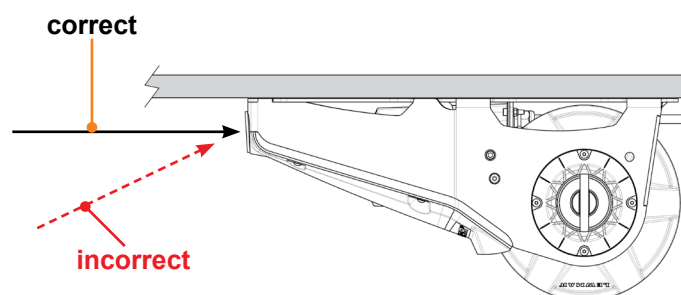

Fig.3
6. The lead from the bow roller should be fed horizontally back to the winch rope feeder, and not at an angle (Fig.3).